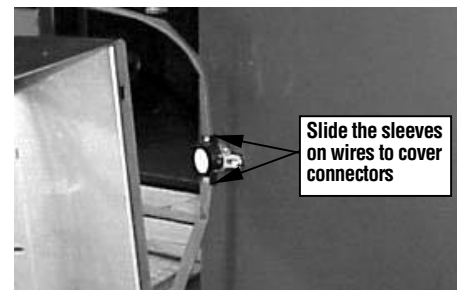

Figure 8
8. Slide the sleeves on the wires to cover the connectors on the fan disc as shown in Figure 8.